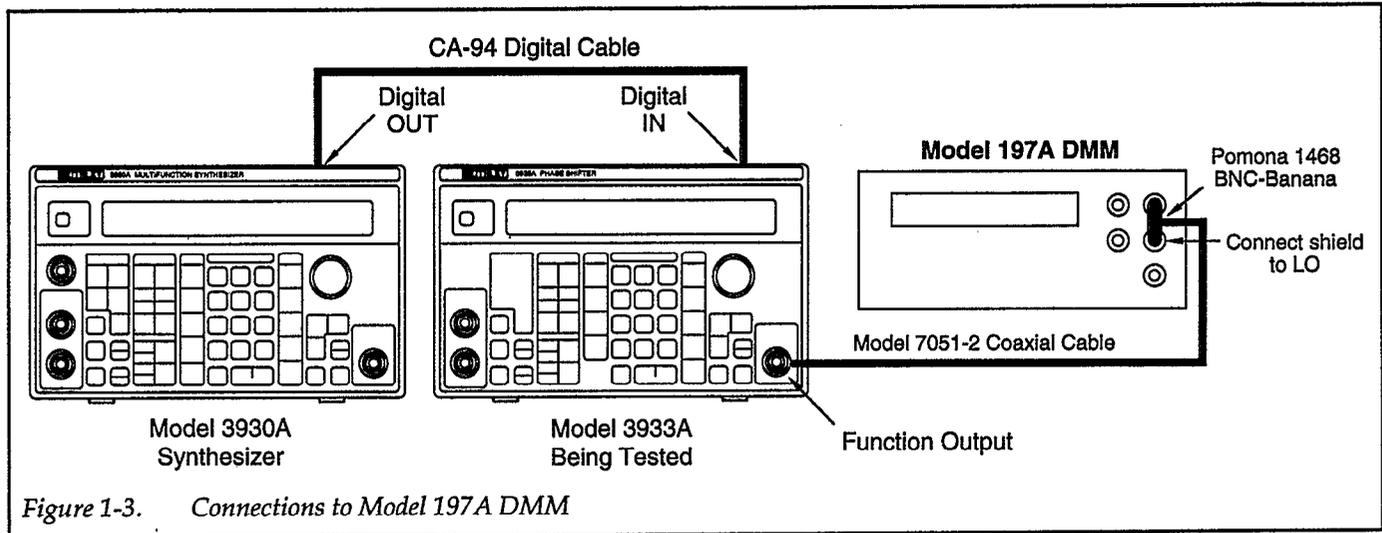

Figure 1-3. Connections to Model 197A DMM
1. Connect the phase shifter to a DMM as shown in Figure 1-3. Turn on all instruments.